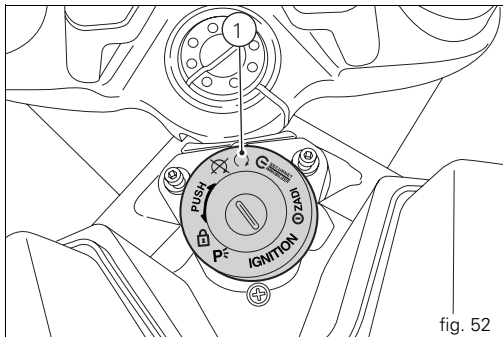

fig. 52
- 1) Turn the ignition switch to position (1, fig. 52).